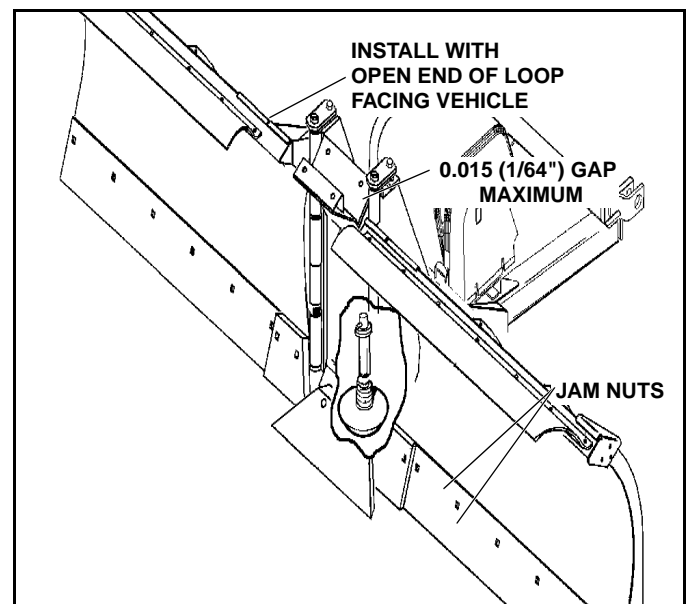

Figure 2-5
8. Check to make sure that the Trip Spring is installed as illustrated with open end of top loop facing vehicle. (See Figure 2-5)
9. Attach the Trip Springs to the Pivot Section using two (2) new Eyebolts (#14), four (4) new Plain Washers (#16), and four (4) Hex Nuts (#15) provided.